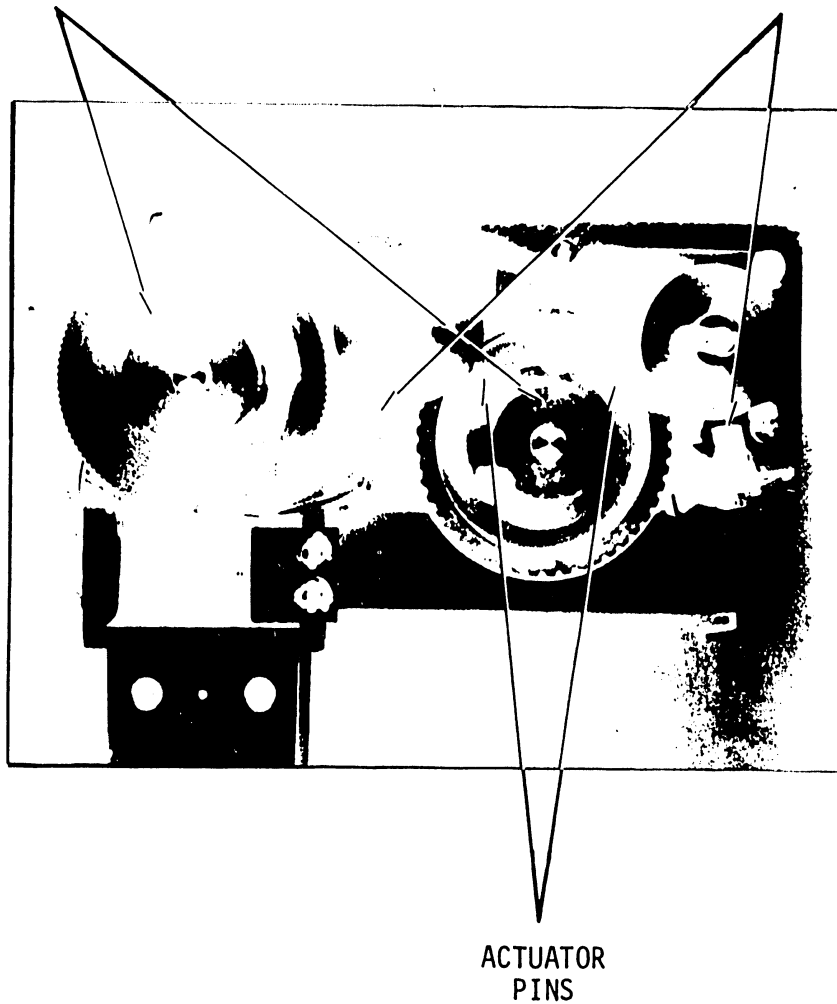

FIGURE 26
- 1) The following is a procedure for aligning Y axis home position. Refer to Figures 26, 27 and 28.
- 2) The following is a procedure for aligning the X axis home position. Use Figures 26, 27 and 28 for reference.